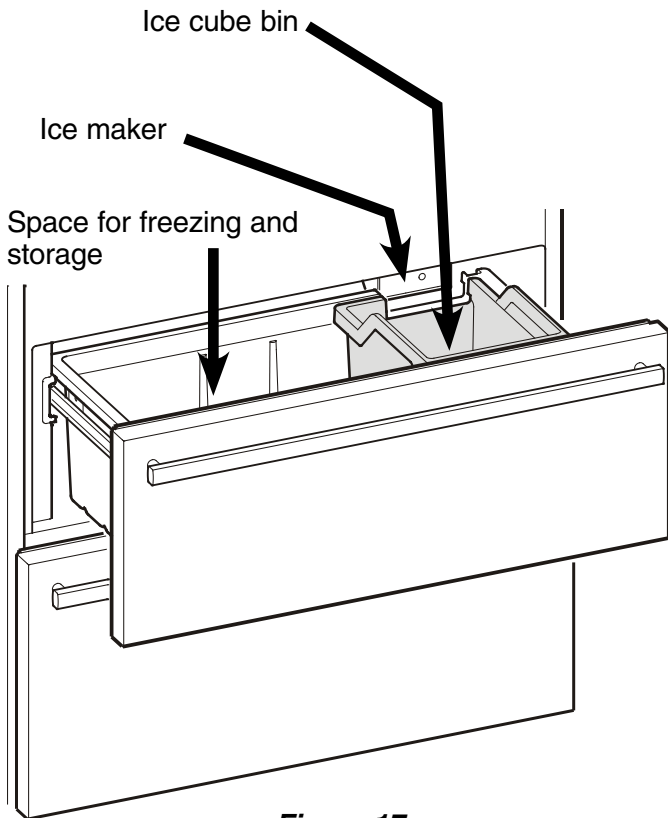

Figure 17
- Figure 17
- The Ice Maker can only make ice cubes if the upper freezer drawer is completely closed and the ice cube bin is installed correctly (**Figure 17**).
- Finally clean the ice cube bin (**Figure 17**).
The ice cubes fall out of the Ice Maker into the ice cube bin (**Figure 17**). When the ice reaches a certain level in the bin, the appliance stops producing ice automatically. The ice maker will not fill the bin to the top.
Be sure the upper freezer drawer is completely closed and the ice cube bin is installed correctly. (**Figure 17**).
- Remove glass shelves as shown in **Figure 17**.